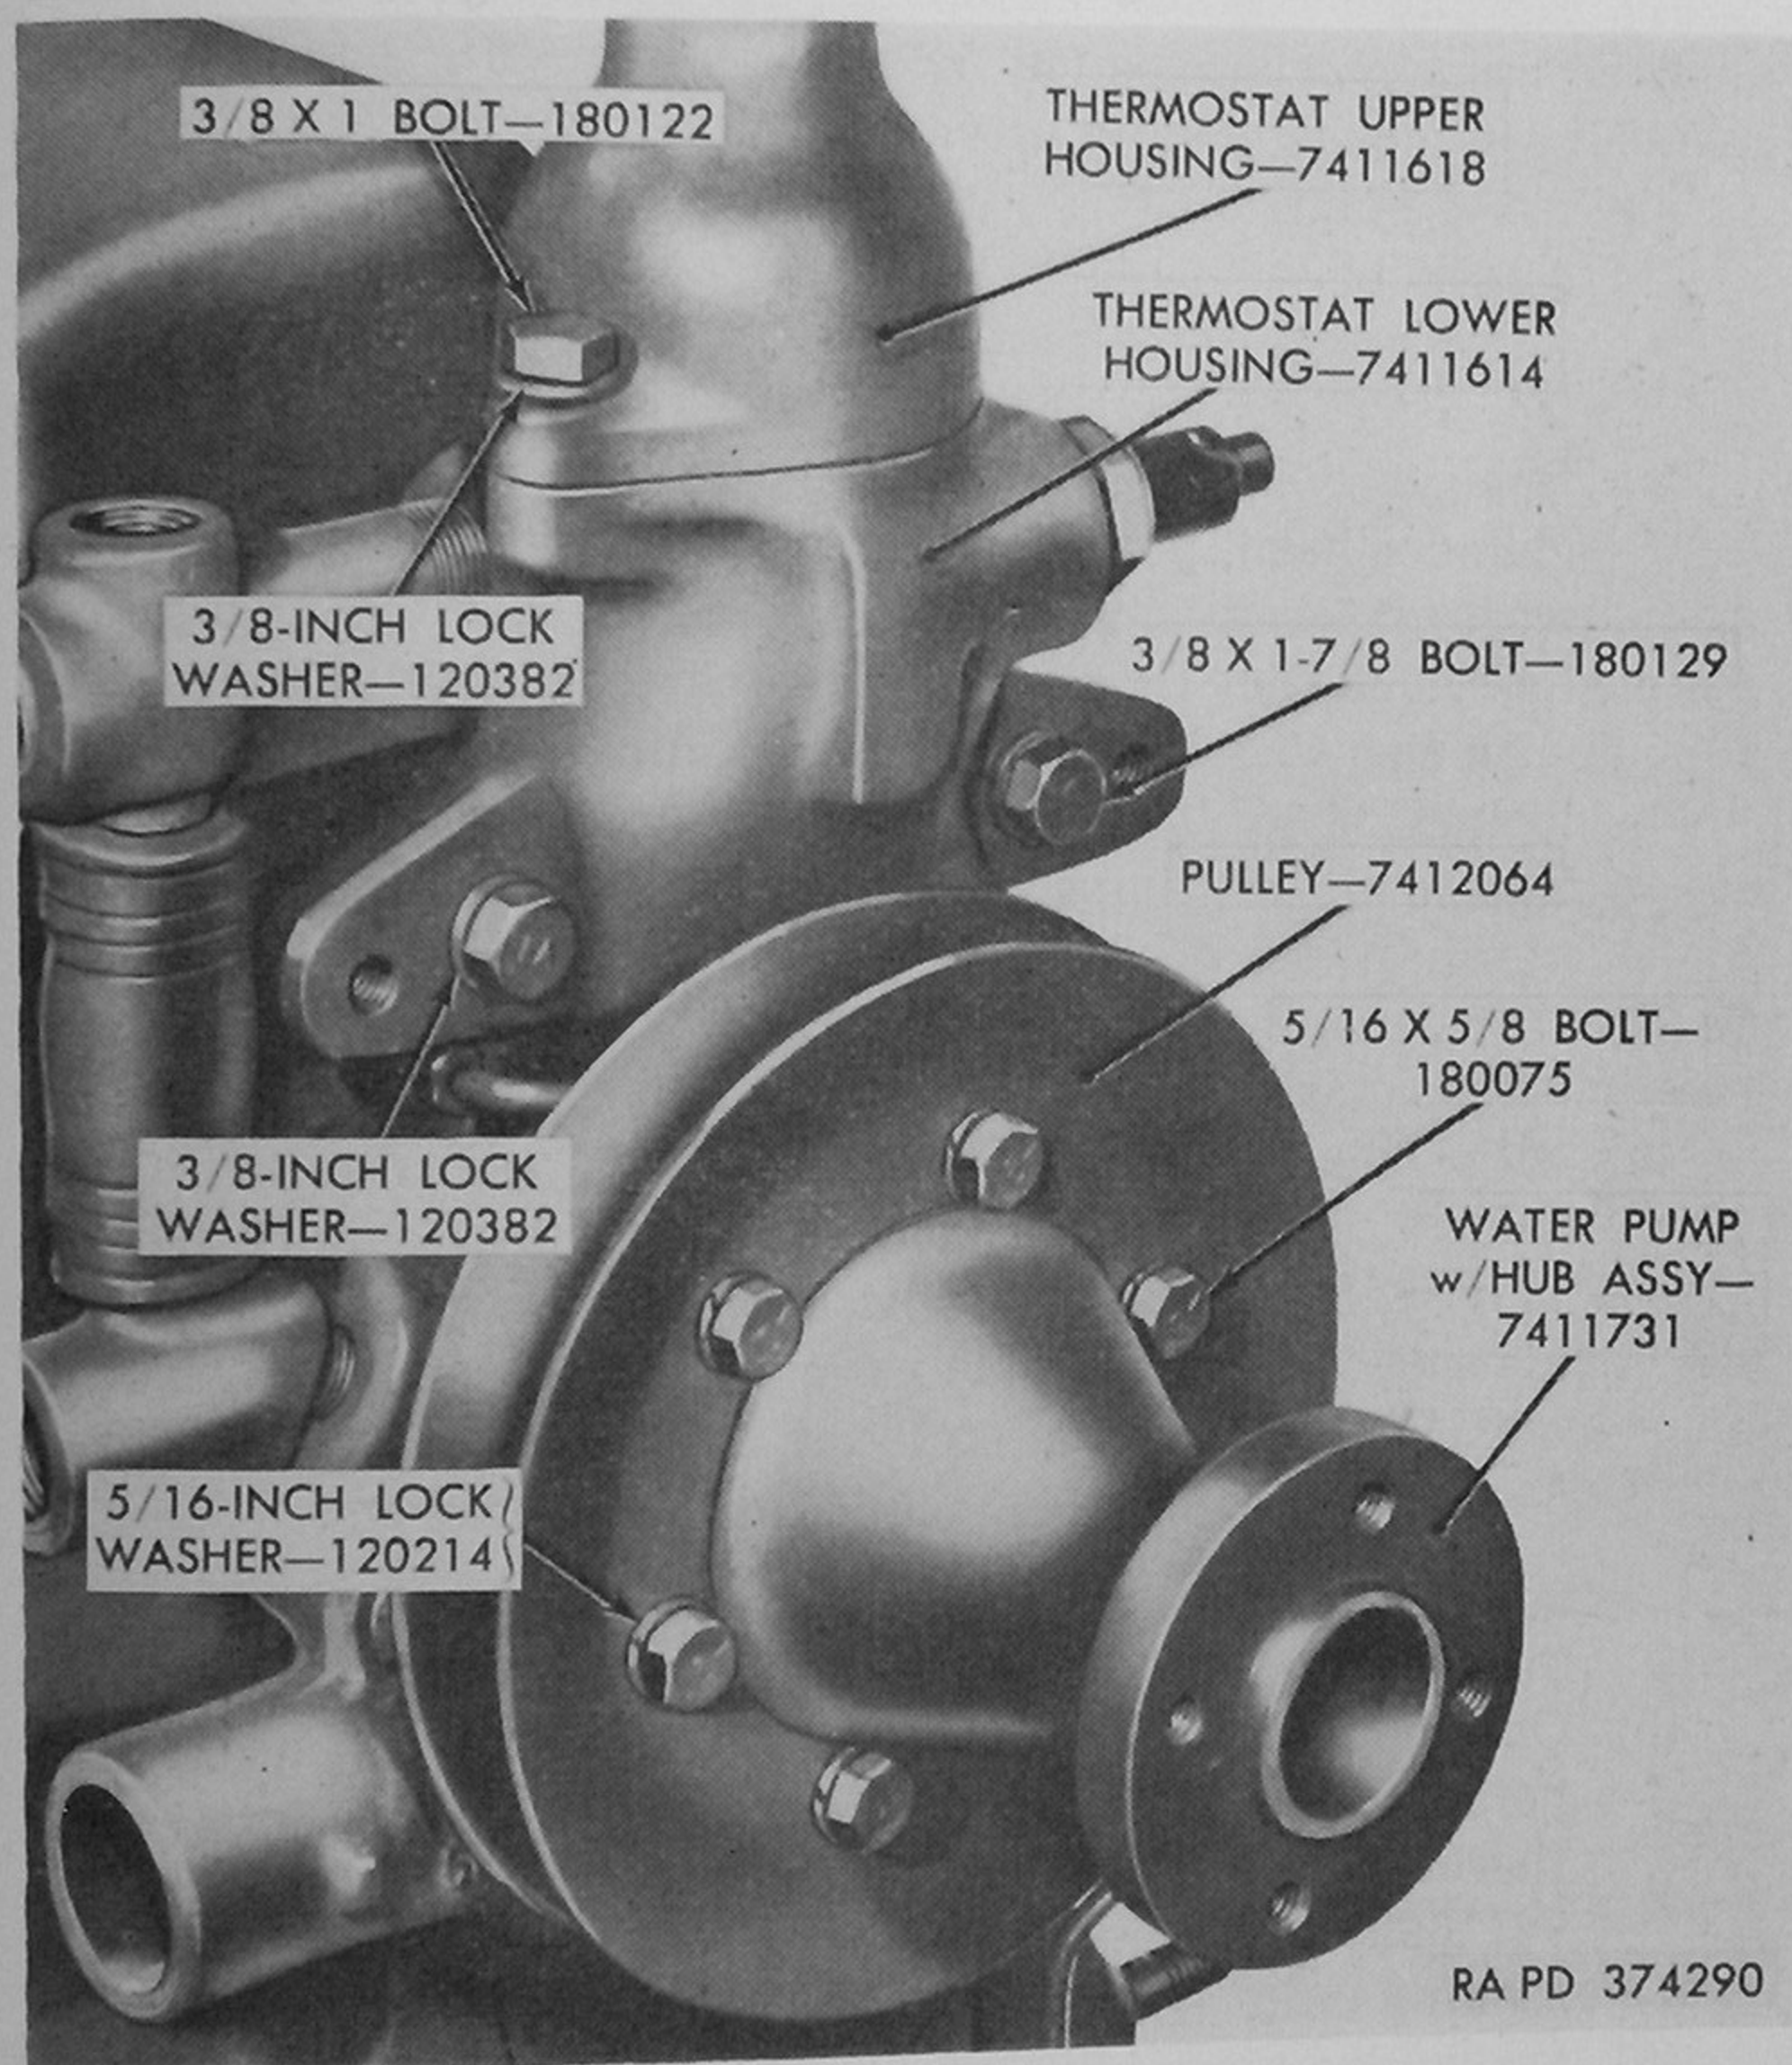

Figure 170. Water pump and thermostat housings installed—engine assembly 7411599.
- (c) On engine assembly 7411599, install pulley on water pump hub (fig. 170) and attach with six  $\frac{5}{16}$  x  $\frac{5}{8}$  bolts and  $\frac{5}{16}$ -inch lockwashers. Tighten bolts to  $8\frac{1}{2}$  to 11 pound-feet torque.